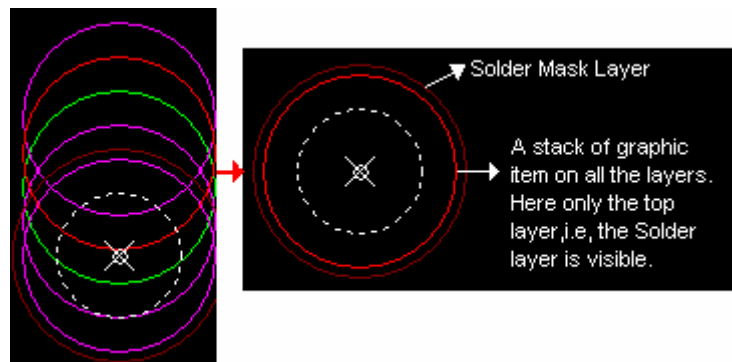

Fig. 3.24
7. The HRF item may be created using the tool  **Create Graphic Item/ Create Hrf Pad**  along with  **Create Arc** tool enabled. Define the contact points with the tool  **Set Contact Point**. Then select  **Create Graphic Item** with both the tool  **Create Hrf Pad** and  **Create Arc** tool enabled. Draw arcs to surround the padstack as shown in fig. 3.24.